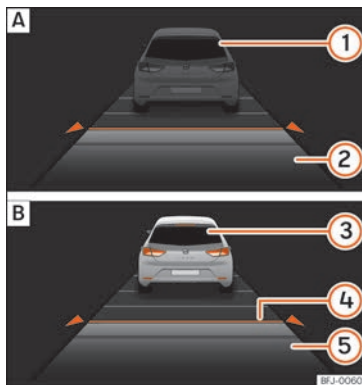
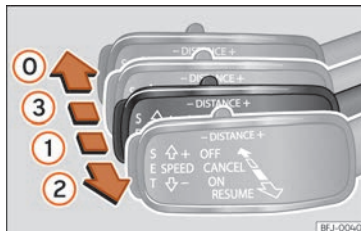
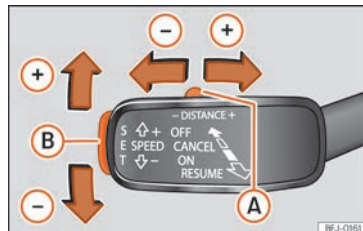

Fig. 263 On the instrument panel display: [A] ACC inactive (Standby). [B] ACC active.
Fig. 265 On the left of the steering column: operating the ACC with the third lever.
Fig. 266 On the left of the steering column: operating the ACC with the third lever.
Indications on the display » **Fig. 263:**
When the ACC is connected, the green control lamp (🚦) will light up on the instrument panel, and the programmed speed and ACC status will be displayed »» **Fig. 263**.
- To activate the ACC, move the third lever to position **ON** » Fig. 265 ①. At this time, the ACC is not active and there is no programmed speed.
- Next, press button **SET** » Fig. 266 ② or move the lever to position **RESUME** » Fig. 265 ②. At this moment the ACC is activated and the current speed and distance are programmed. The picture in the box will change to Active mode » Fig. 263 ⑧.
- To set the speed, move the third lever up \oplus or down \ominus to the desired speed » Fig. 263 ⑥. The speed adjustment is made at 10 km/h (6 mph) intervals.
- If you wish to increase speed by intervals of 1 km/h (0.6 mph), move the lever to position **RESUME** » Fig. 265 ②, or to decrease it press button **SET** » Fig. 266 ②.
- To increase or reduce the distance, press button **A** to the right or left » Fig. 266.
The instrument panel display modifies the selected distance » Fig. 263 ④. There are 5 distance levels to choose from. SEAT recommends level 3. The set distance can be changed when the vehicle is stopped or while driving » \triangle .
- To disconnect the ACC move the lever to position **OFF** (fixed) » Fig. 265 ①. An **ACC deactivated** message appears and the function is totally deactivated.